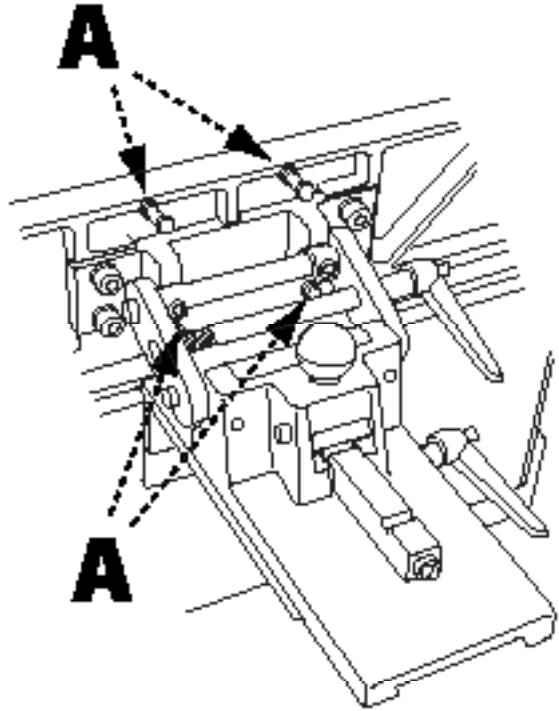

FIGURE 18
2. Refer to Figure 18 and locate the two sets of 45° Stop Bolts (A), there are two bolts that set the position for the inward 45° Stop and two that set the position for the outward 45° stop.